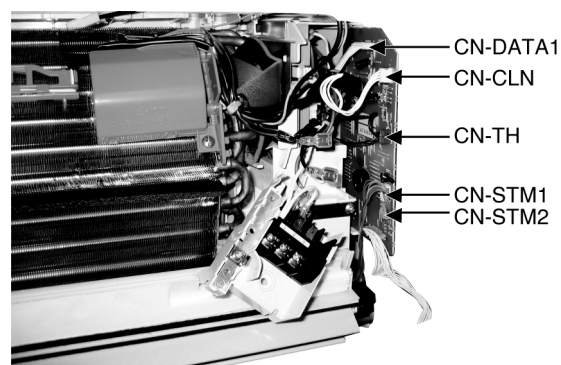

Fig. 5
- Release the CN-DATA1 connector. (Fig. 5)
- Release the CN-TH connector. (Fig. 5)
- Release the CN-CLN connector. (Fig. 5)
- Release the CN-STM1 connector. (Fig. 5)
- Release the CN-STM2 connector. (Fig. 5)